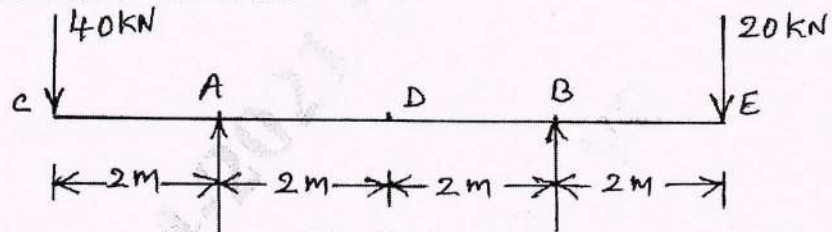

Fig. Q10(b).
- b. Calculate slope at A and deflection at D for the overhanging beam shown in Fig. Q10(b). Take $E = 200\text{GPa}$ and $I = 50 \times 10^6 \text{mm}^4$. (14 Marks)